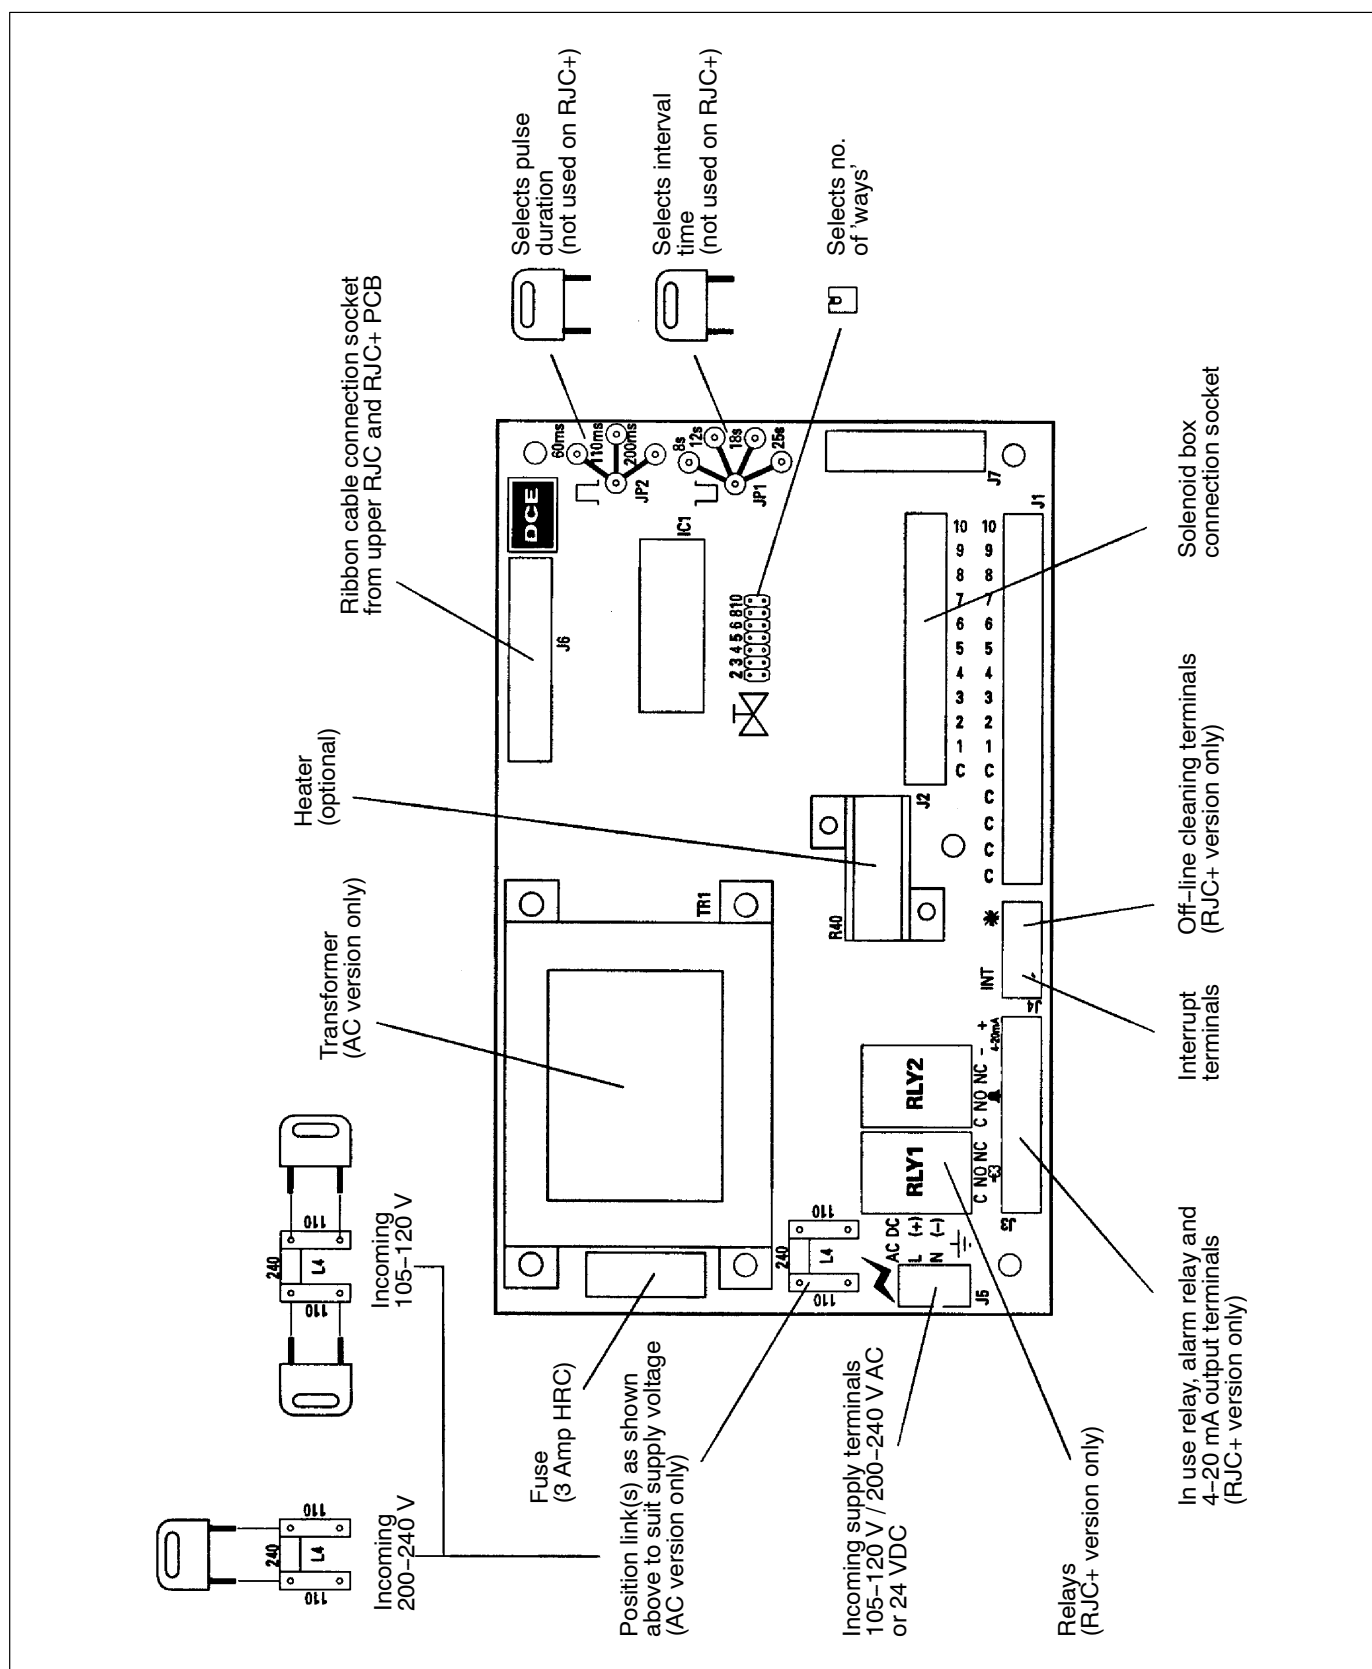

Fig. 4-11 Lower PCB layout for RJC and RJC + controllers
Open the lid of the controller and unscrew the 4 top plate retaining screws. Remove the top plate assembly, ensuring that the ribbon cable is disconnected from the lower PCB assembly. Connect the incoming supply to the terminal block J5 (see Fig. 4-11). Ensure that the terminal block is pushed in fully to engage retaining clips. On the AC version ensure that the voltage setting links are set for the incoming supply voltage (for 105–120 V use 2 links in the positions marked 110; for 200–240 V use 1 link in the position marked 240. When the 200–240 V range is selected the second link is not used – this is attached to the 200–240 V link by a cable tie when despatched from Nordson).
Ensure that the pulse duration is set at 200 ms with 12 sec. intervals between pulses. The setting links for these are denoted by the  and  symbols, respectively, on the PCB (see Fig. 4-11).
In order to utilise this function a volt free contact (typically from a PLC system) should be connected across the terminals marked 'INT' on the lower PCB (see Fig. 4-11). Closing the contact stops the cleaning cycle opening the contact restarts the cycle.
This function (when enabled) allows the cleaning cycle to continue for a period of time after the fan has been switched off. In order for this function to operate, a normally open contact, on the fan starter system, must be connected to the lower PCB terminals, marked with the ✱ symbol (see Fig. 4-11). This will then signal the controller that the fan is either off or on. The off-line cleaning will then operate according to the parameters entered via the membrane keypad (refer to RJC+ setup).
Open the lid of the controller and unscrew the 4 top plate retaining screws. Remove the top plate assembly, ensuring that the ribbon cable is disconnected from the lower PCB assembly and that the clear PVC tubes are disconnected from the bulkhead fittings. Connect the incoming supply to the terminal block J5 (see Fig. 4-11). On the AC version ensure that the voltage setting links are set for the incoming supply voltage (for 105–120 V use 2 links in the positions marked 110; for 200–240V use 1 link in the position marked 240. When the 200–240V range is selected the second link is not used – this is attached to the 200–240V link by a cable tie when despatched from Nordson Corporation).
The fitment of replacement PCBs is relatively simple. However, it must be noted that the lower PCB assembly is a universal spare and must be configured to the number of solenoid valves fitted in the solenoid valve enclosure. In order to do this the jumper links, denoted by the  symbol (see Fig. 4-11) must be in the correct position (either 2, 3, 4, 5, 6, 8 or 10). Failure to carry out this procedure will result in poor filter performance.
5. Plug the two relays in to the lower PCB in the areas labelled RLY1 and RLY2 (see Fig. 4-11).
6. Fit the 8-way terminal socket to the vacant 8-way PCB mounted plug (see Fig. 4-11).
Protection of the RJC controller against an output current overload is achieved by a small HRC cartridge fuse mounted on the PCB, labelled F1 (see Fig. 4-11). In an emergency a quick-acting fuse could be used as a temporary alternative but a time delay fuse must not be used under any circumstances.